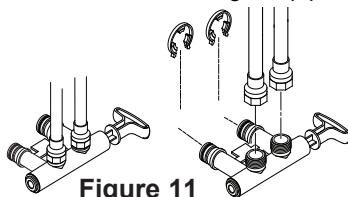

Figure 11
**IMPORTANT:** This water softener has a non-metallic valve system. Installing it on metal plumbing will break electrical continuity, which may interrupt grounding for the home. You must restore electrical continuity in your metal plumbing system. If you install a 3-valve bypass system (Figure 5), electrical continuity will be maintained. If you install the non-metallic bypass valve (Figure 11), please refer to the Installing the Ground Wire section before cutting the pipe.